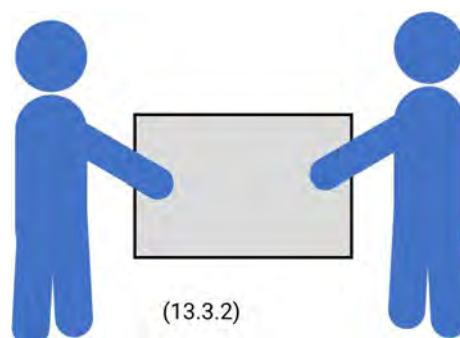

Figure 14.3.2: Transport of X-TRACKER® with packaging
5. Lift the unit vertically, placing an operator on either side of the packaging (Figure 14.3.2);